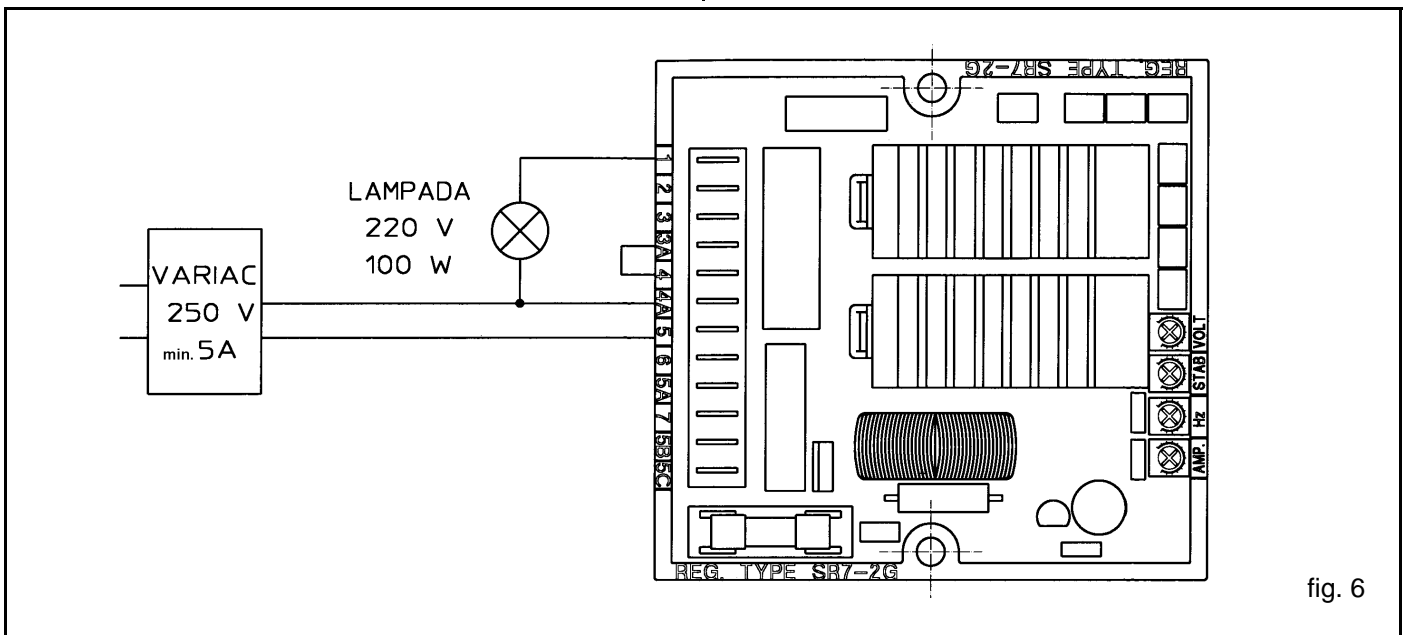

fig. 6
1) Prepare the connected regulator as shown in figure 6.